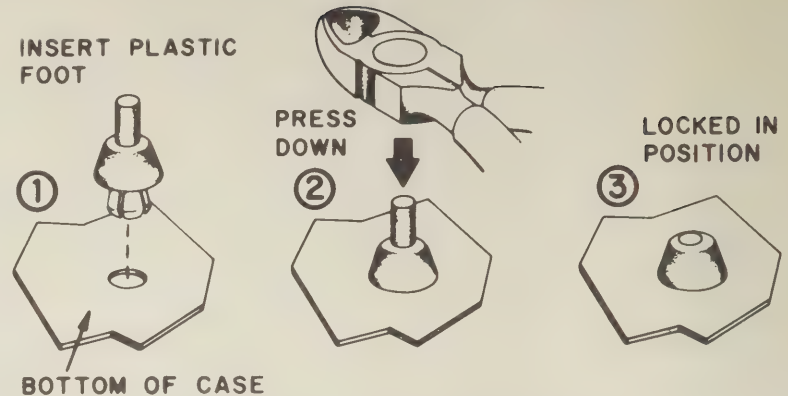

FIGURE 16. FOOT MOUNTING
- ☐ Four plastic feet. Mount to the bottom of the case as shown in Figure 16.